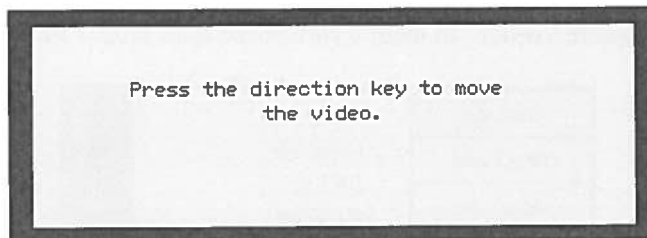

Fig.4-12
- After inserting video display, select "Settings"- "Video Position Set " in real-time state, the video move function interface will pop up, as following Fig.4-12. After entering into video move function, use the cursor direction keys to adjust the display position of video output, the position changing displays in the video output in real-time and the display of this system do not prompt.